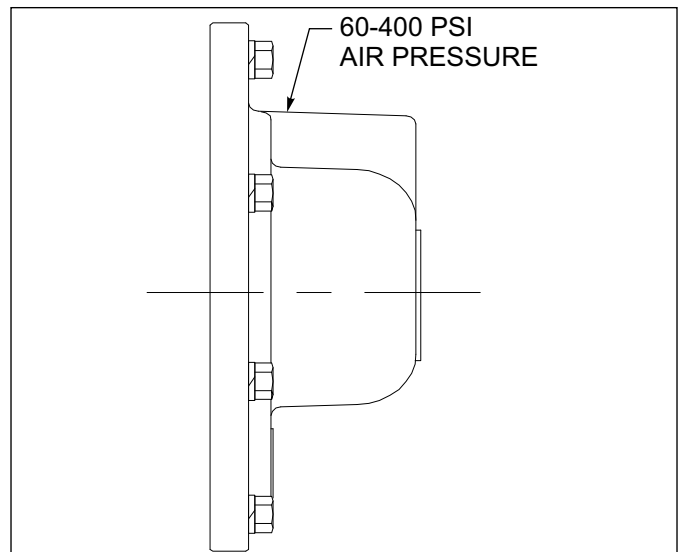

Figure 3-12: Air/Hydraulic Kickout
**See Figures 3-12 and 3-13.**